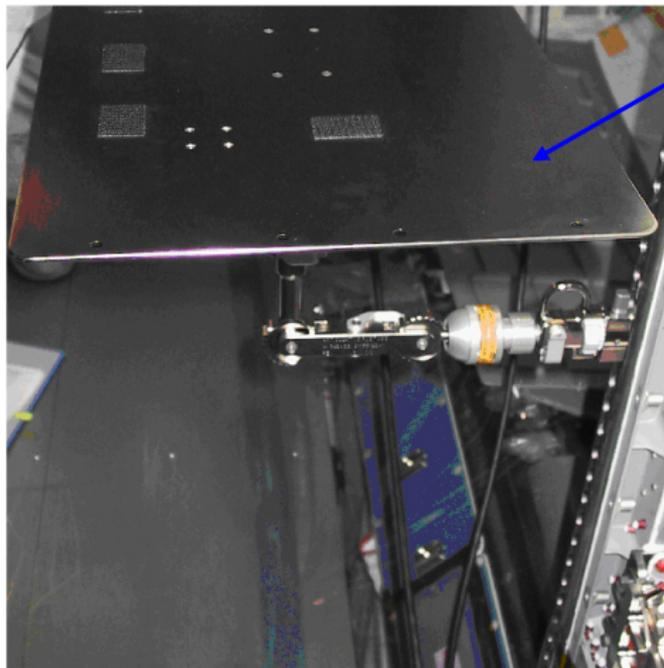

Figure 2. JEM Laptop Table Configuration.
1.8 Transfer and attach JEM Laptop Table to Seat Track on the left lower side of WS Rack. Refer to Figure 2.